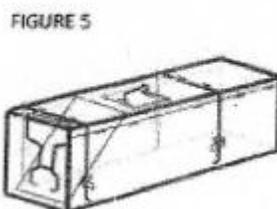

FIGURE 5
4. The trap should now be ready to connect the trap door to the trip plate ((Fig. 5).